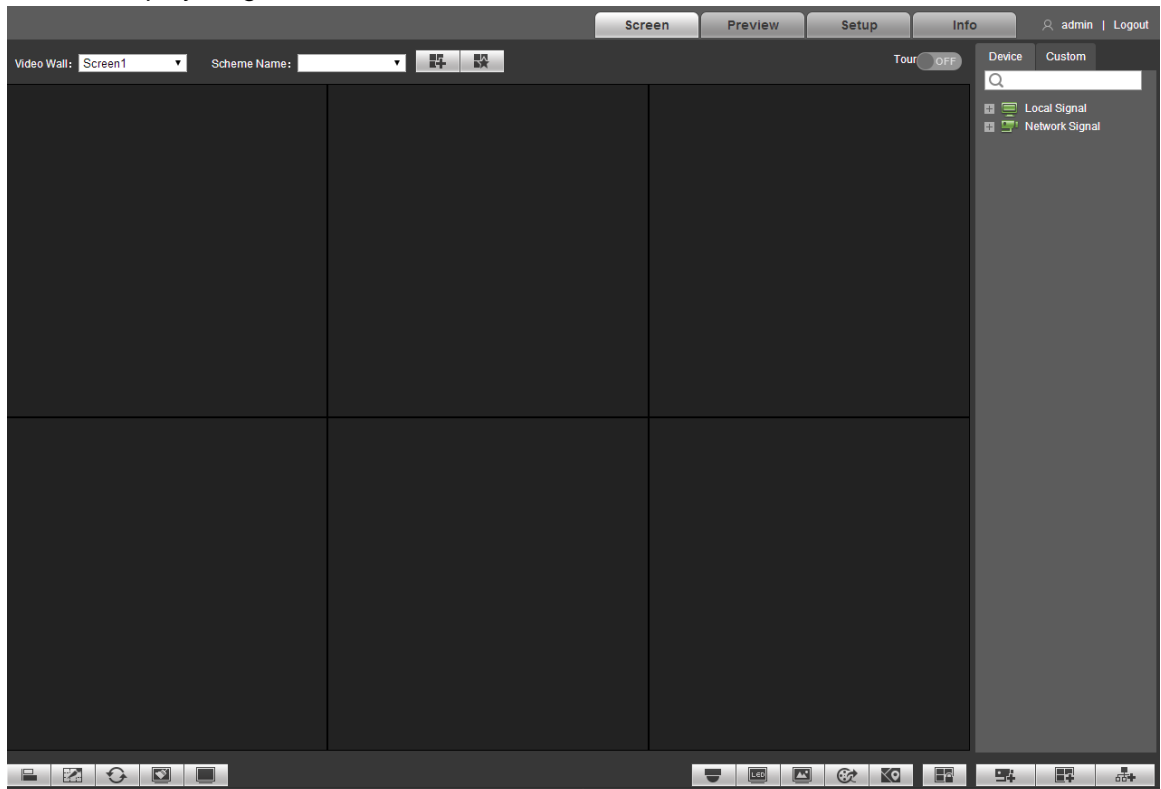

Figure 4-3
Step 4 Input username and password, and click “Login” to login the system. The system displays Figure 4-3.